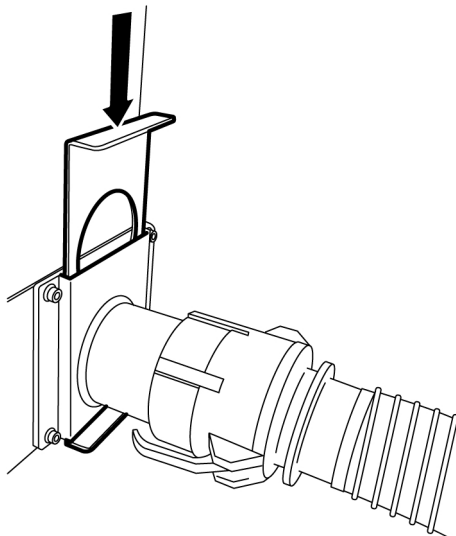

Figure 4-7. Push slide gate down
6. Push the slide gate down, see Figure 4-7, page 19.